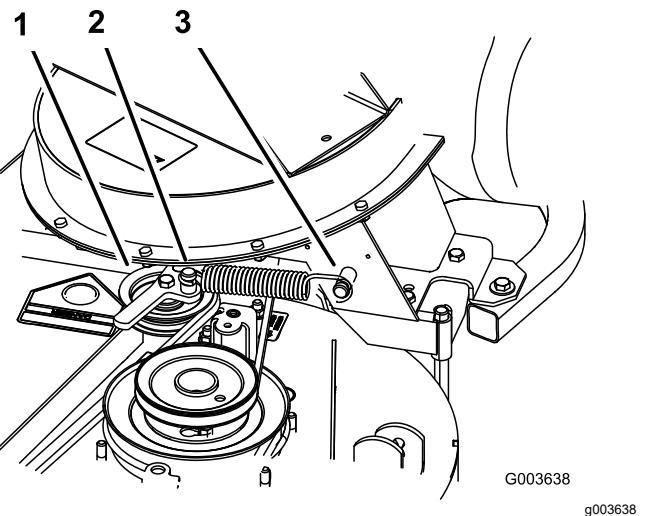

Figure 41
6. Install the spring as shown in Figure 41.